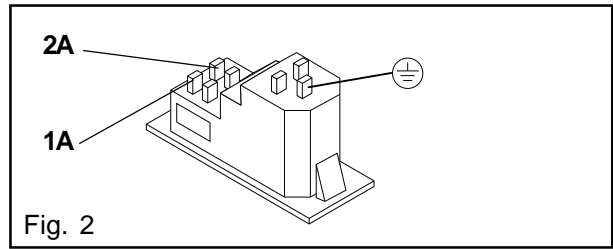

Fig. 2
- Mount the power supply connections 2A and 1A onto the switch by pressing slightly against the switch. (Fig. 2)